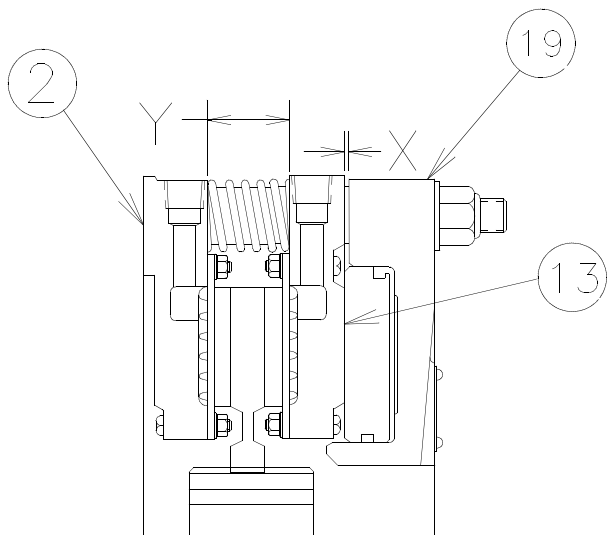

Figure 7
Apply approximately 25 PSIG (1.7 bar) air pressure to the cylinder to engage the tensioner. Measure the "X" gap between the cylinder (19) and the pressure plate (13) or the gap "Y" between the pressure plate (13) and the mounting flange (2) as shown in Figure 7. If either gap exceeds the limits shown in Table 10, the friction discs and/or wear plates must be inspected to ensure that the wear limits listed in Table 14 have not been exceeded.